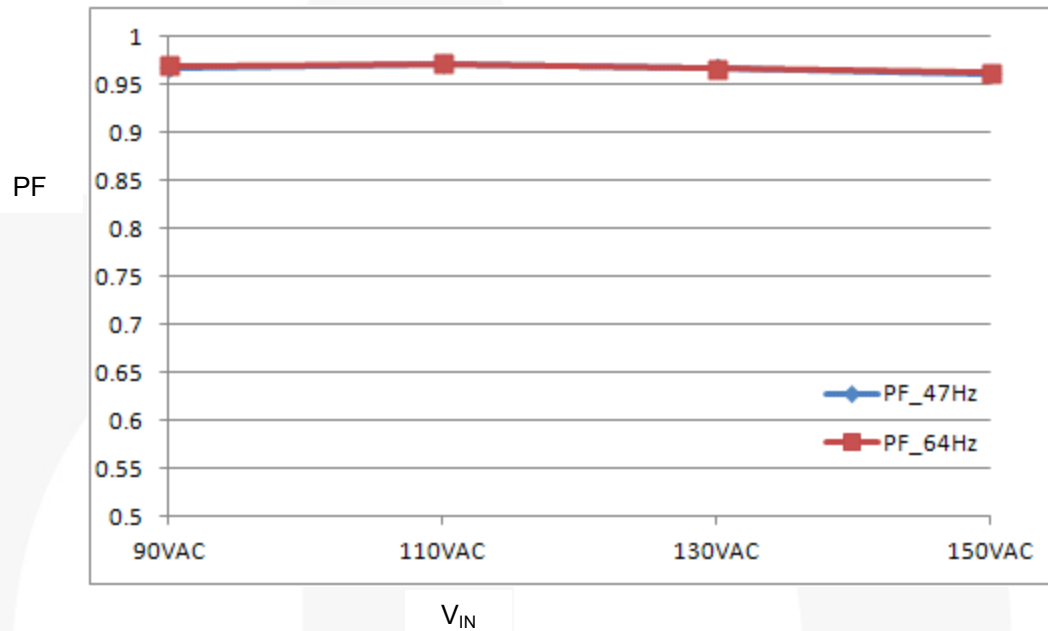

Figure 26. Power Factor
Figure 26 shows the system Power Factor (PF) performance for the entire input voltage range (90 VAC to 150 VAC) at different input frequency conditions (47 Hz, 64 Hz). The PF changes slightly according to the input frequency.